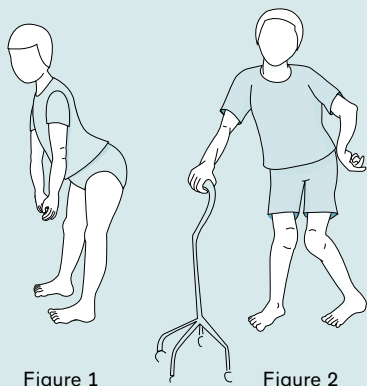

Figure 1
- Compensated for while standing by hip flexion and internal rotation while extending the knee (see Figure 1) or hip extension and internal rotation while flexing the knee (see Figure 2)